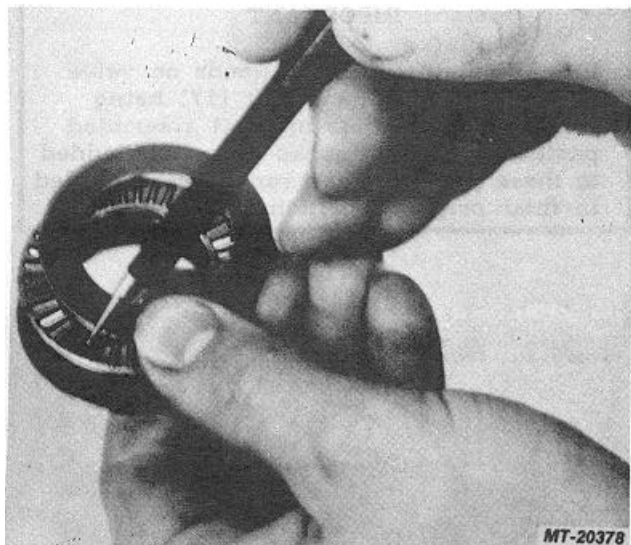

Fig. 12
18. Do not remove drive ring (16) from worm shaft (17) or attempt to unbend tangs which hold drive ring in place on worm shaft.
19. Remove valve sleeve (15) from valve housing (9).
20. Remove thrust washers (11) and thrust bearing (12) from valve housing (9).
21. Remove "O" ring (10) from valve housing (9).
22. Remove seal (4), retaining ring (5), back-up washer (6), slipper (7) and "O" ring (8) from valve housing (9).
23. Inspect thrust bearing (12) and thrust washers (11) for wear marks or brinelling, replace if damaged (Fig. 12).
24. Remove seal rings (13) and "O" rings (14) from valve sleeve (15).